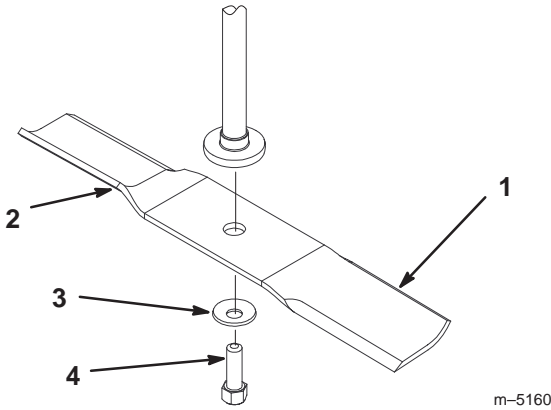
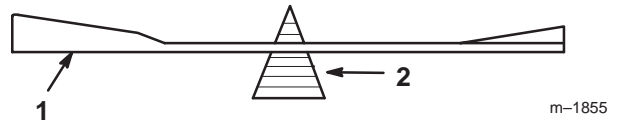

Figure 18
Figure 20
Hold the blade end using a rag or thickly-padded glove. Remove the blade bolt, curved washer, and blade from the spindle shaft (Fig. 18).
2. Check the balance of the blade by putting it on a blade balancer (Fig. 20). If the blade stays in a horizontal position, the blade is balanced and can be used. If the blade is not balanced, file some metal off the end of the sail area only (Fig. 18). Repeat this procedure until the blade is balanced.
1. Install the blade onto the spindle shaft (Fig. 18).
2. Install the curved washer (cupped side toward the blade) and blade bolt (Fig. 18). Torque the blade bolt to 35–65 ft.-lb. (47–88 N·m).